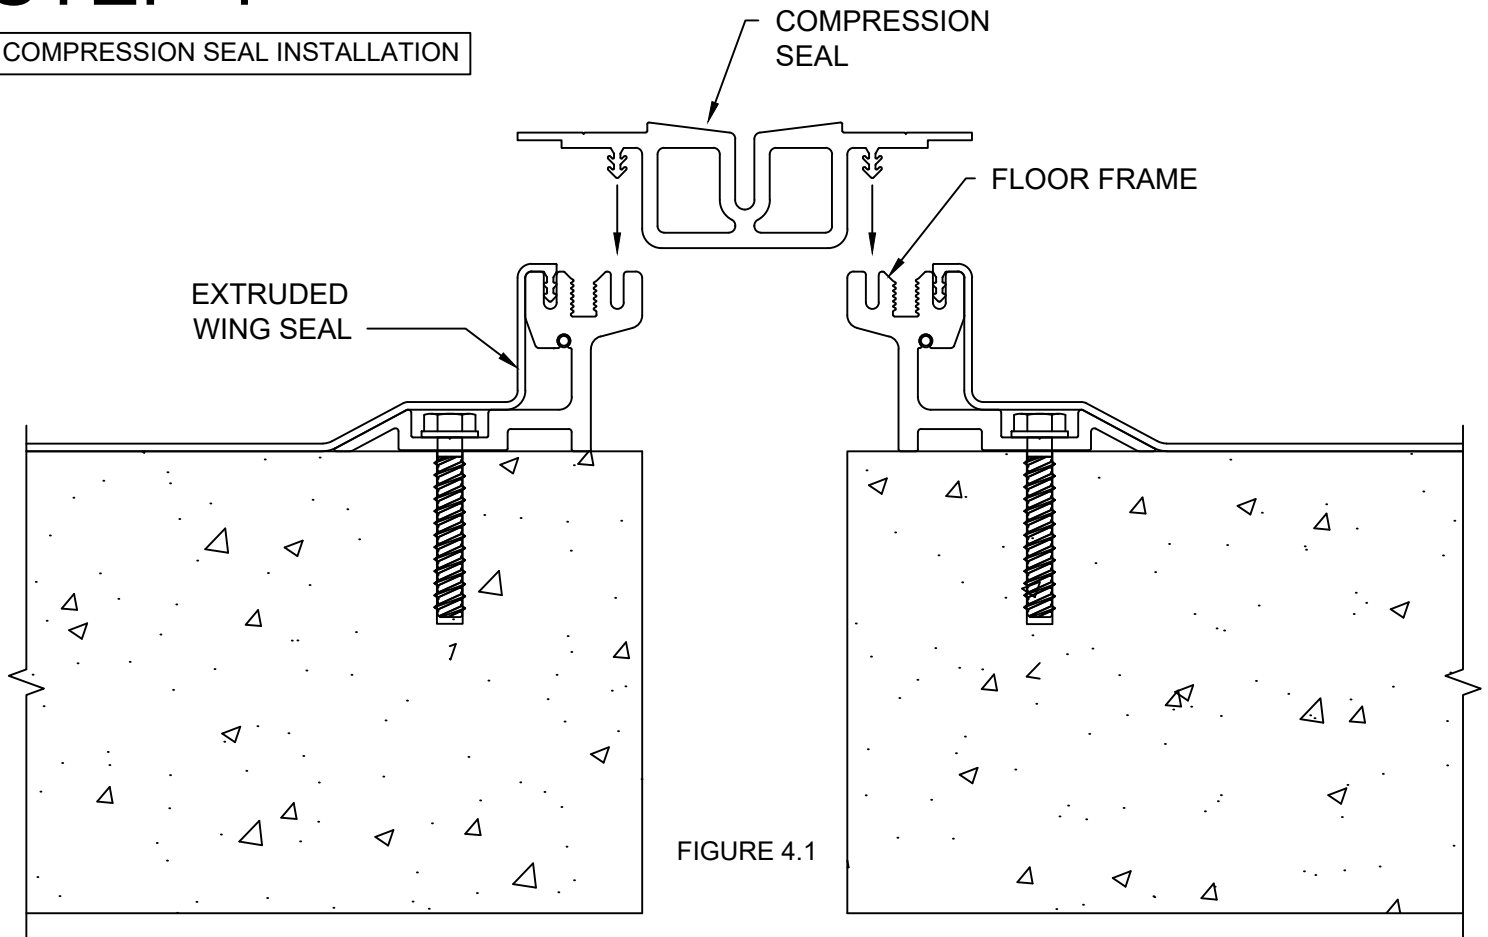

FIGURE 4.1
- 4.2) Line up the push-in arrows on the seal with the slots in the Floor Frame. (See Figure 4.1)